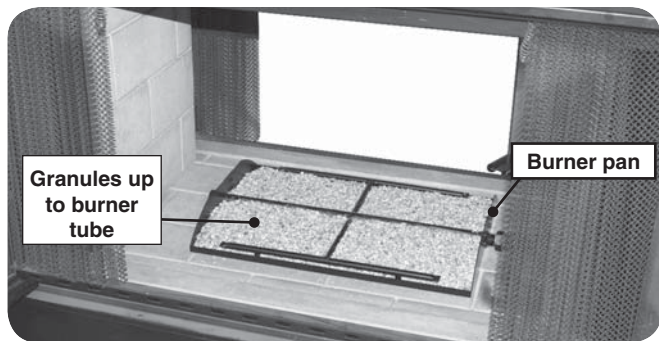

Fig. 8-1
1. Partially fill the burner pan with the granules*, up to the burner tube (see Fig. 8-1).